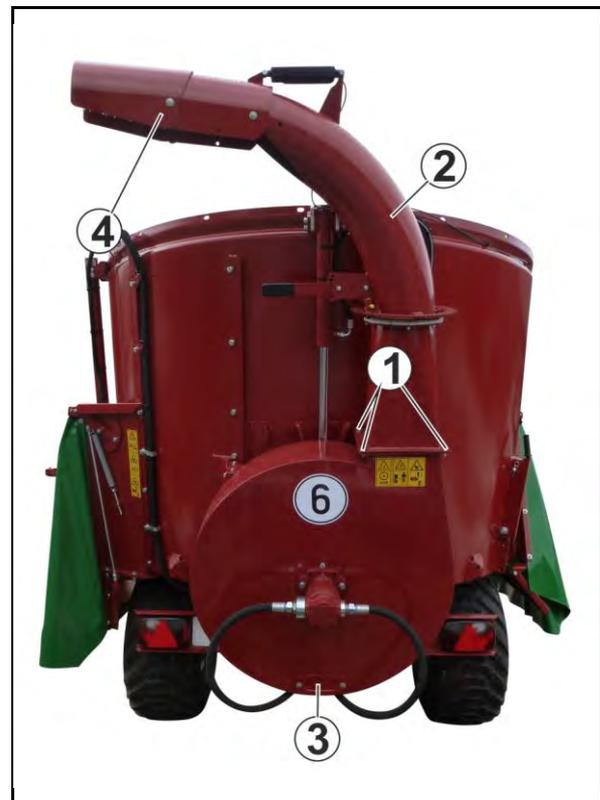

Fig. 103
Wait for the blower wheel to stop completely before unscrewing the screws (Fig. 103/1) at the blow-out pipe (Fig. 103/2) or removing the cover (Fig. 103/3) or the ejection hood (Fig. 103/4).
5. Unscrew 3 screws (Fig. 103/1) from the blow-out pipe (Fig. 103/2) such that the blow-out pipe can be easily rotated around one of the front screws.
8. Open the cover (Fig. 103/3) at the blower casing, in order to remove e. g. stones from the blower casing.
9. Screw the blow-out pipe and the cover to the blower casing as illustrated in (Fig. 103) before switching the blower on.